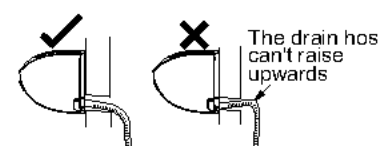

Fig.23
- (1) The through-wall height of drain hose shouldnt be higher than the outlet pipe hole of indoor unit.(As show in Fig.23)